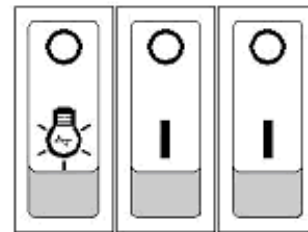

Fig.5
- The first switch marked with a light bulb controls the lamp and flame effect as shown in **Fig.5**.